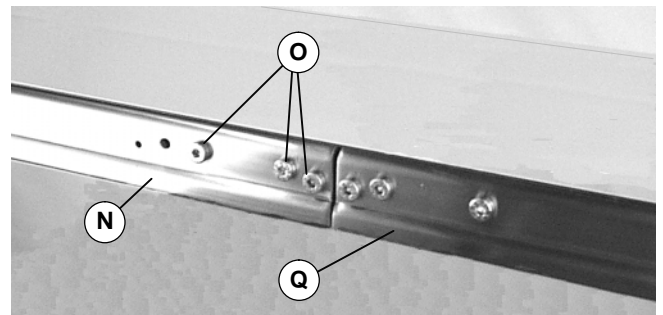

Figure 8
5. Join conveyor sections (N & Q of Figure 8). Install screws (O) on both sides. Tighten to 7 Nm.